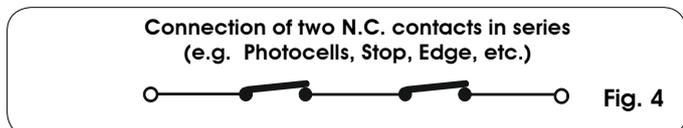

Fig. 4
**N.B. If two or more safety devices have the same function (opening, closing, opening and closing, edge), the contacts must be connected to each other in series (fig. 4).**
If the **Opening safety devices** are engaged when the gate is closed, they prevent the opening movement. To install several safety devices, connect the N.C. contacts in series (fig. 4).
To install several safety devices, connect the N.C. contacts in series (fig. 4).
To install several STOP devices, connect the N.C. contacts in series (fig. 4).